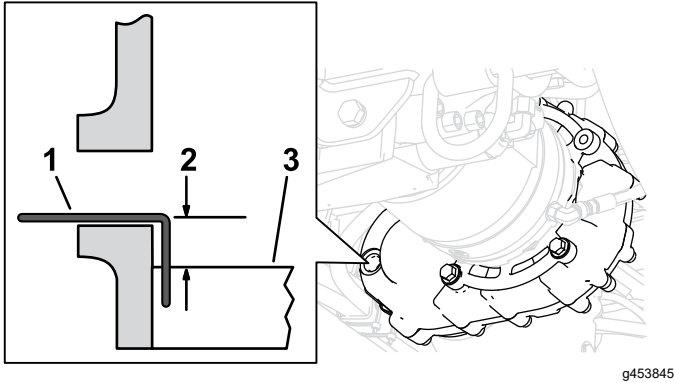

Figure 114
3. Check that the oil level in the gearbox is 23 mm (29/32 inch) below the bottom of the sight port; use a bent paperclip inserted into the sight port as shown in Figure 114.